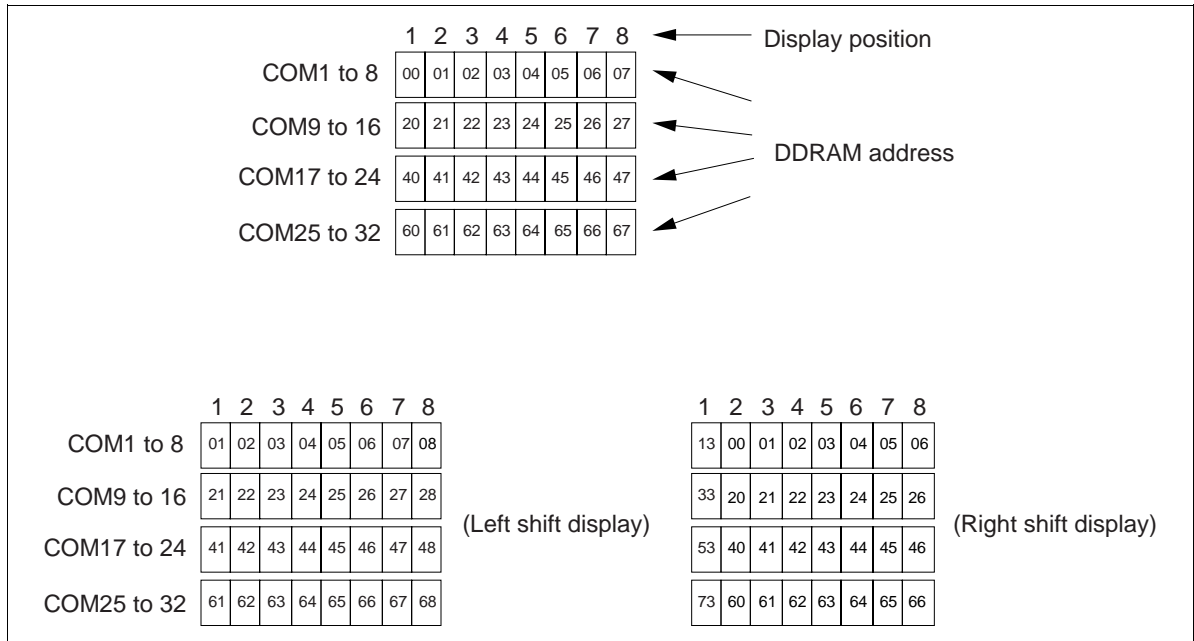

Figure 6 4-Line Display
- Case 1: The first line is displayed from COM1 to COM8, the second line is displayed from COM9 to COM16, the third line is displayed from COM17 to COM24, and the fourth line is displayed from COM25 to COM32. Care is required because the DDRAM addresses of each line are not consecutive. For example, the case is shown in Figure 6 where 8 × 4-line display is performed using the HD66710.
When a display shift operation is performed, the DDRAM address shifts. See Figure 6.